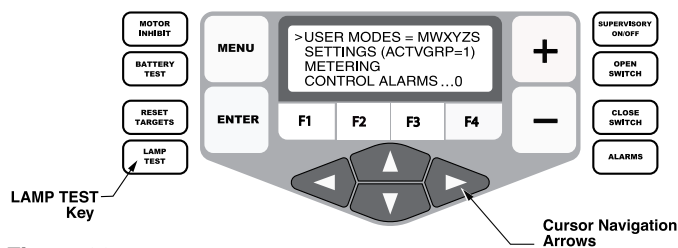

Figure 29. Lamp Test button, LCD display, and cursor movement arrows.
1. Verify operating status of all indicator lights by pressing and holding the LAMP TEST key for two seconds on the programming panel (Figure 29).
Note: Scroll through the LCD display messages by pressing the ▲ and ▼ cursor movement arrows underneath the LCD display on the programming panel (Figure 29).